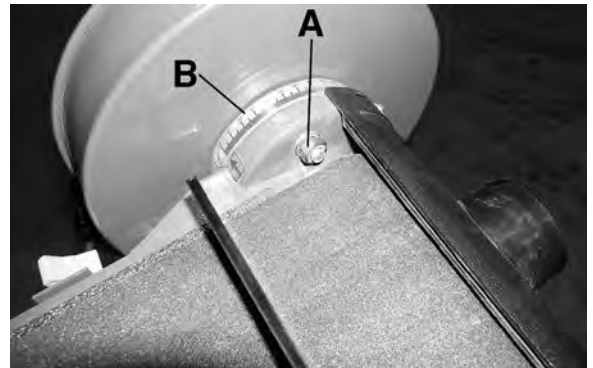

Figure 15
1. Loosen the two lock nuts (A) Fig.15 (the second hex. nut is under the one shown).
2. Slowly lift or lower the belt housing to the desired angle. See scale (B) for the sanding belt angle.
3. To secure into position, retighten the two lock nuts (A).